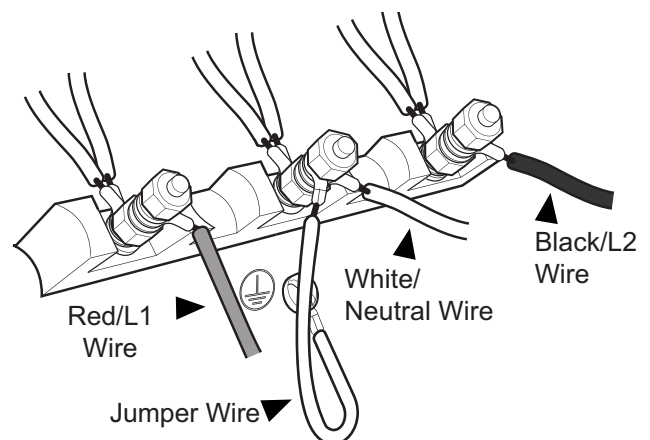

Figure 14: 3-Wire Connection
4. Secure the neutral, grounded wire of the supply circuit, to the center, silver-colored stud of the terminal block (see Figure 14).
5. Secure the L1 (red) and L2 (black) power leads to the outside corresponding brass-colored terminal block studs (see Figure 14).
6. Remove the green ground screw located beneath the terminal block. Screw one end of the included white jumper wire to the chassis beneath the terminal block with the green ground screw. Secure the other end of the wire to the center stud of the terminal block with nut, as shown in Figure 14.